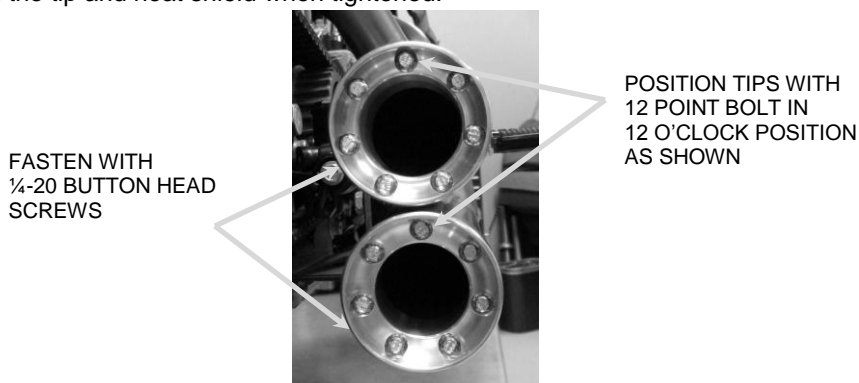

FIGURE 4
17. Align the tapped hole in the side of the billet tip with the hole in the heat shield and slide it into the heat shield. Be sure one of the 12 point bolts is in the 12 o'clock position. See **FIGURE 4**. (NOTE: If it is difficult to slide the tips into the heat shields loosen the clamps on the heat shields. Failure to do this may cause damage to the tips.) Fasten the tips with the supplied 1/4-20 button head screws making sure there is no gap between the tip and heat shield when tightened.